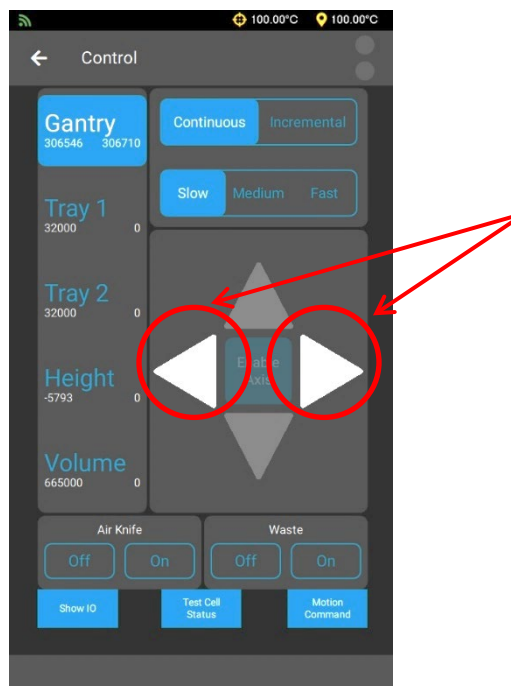

Figure 11: Gantry Control Screen
- Use left or right arrow keys to move the gantry position to allow access to the viscometer cell assembly area. See Figure 11.
3. By using the onscreen left or right arrow key, move the gantry position in order to allow access to the viscometer cell assembly. See Figure 11.